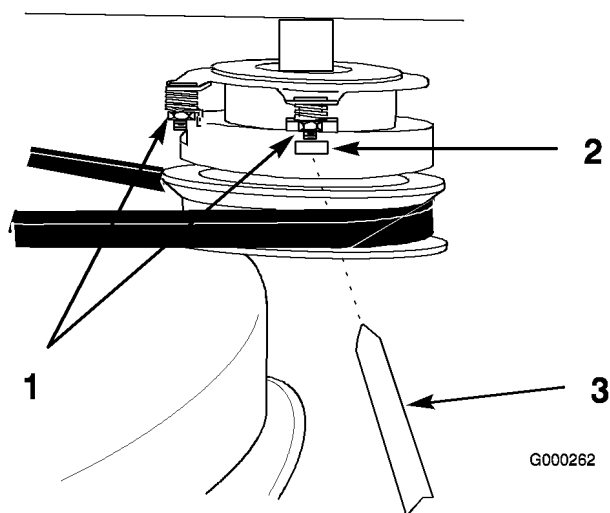

Figure 42
1. To adjust the clutch, tighten or loosen the lock nuts on the flange studs (Figure 42).
2. Check adjustment by inserting a feeler gauge through the slots next to the studs (Figure 42).